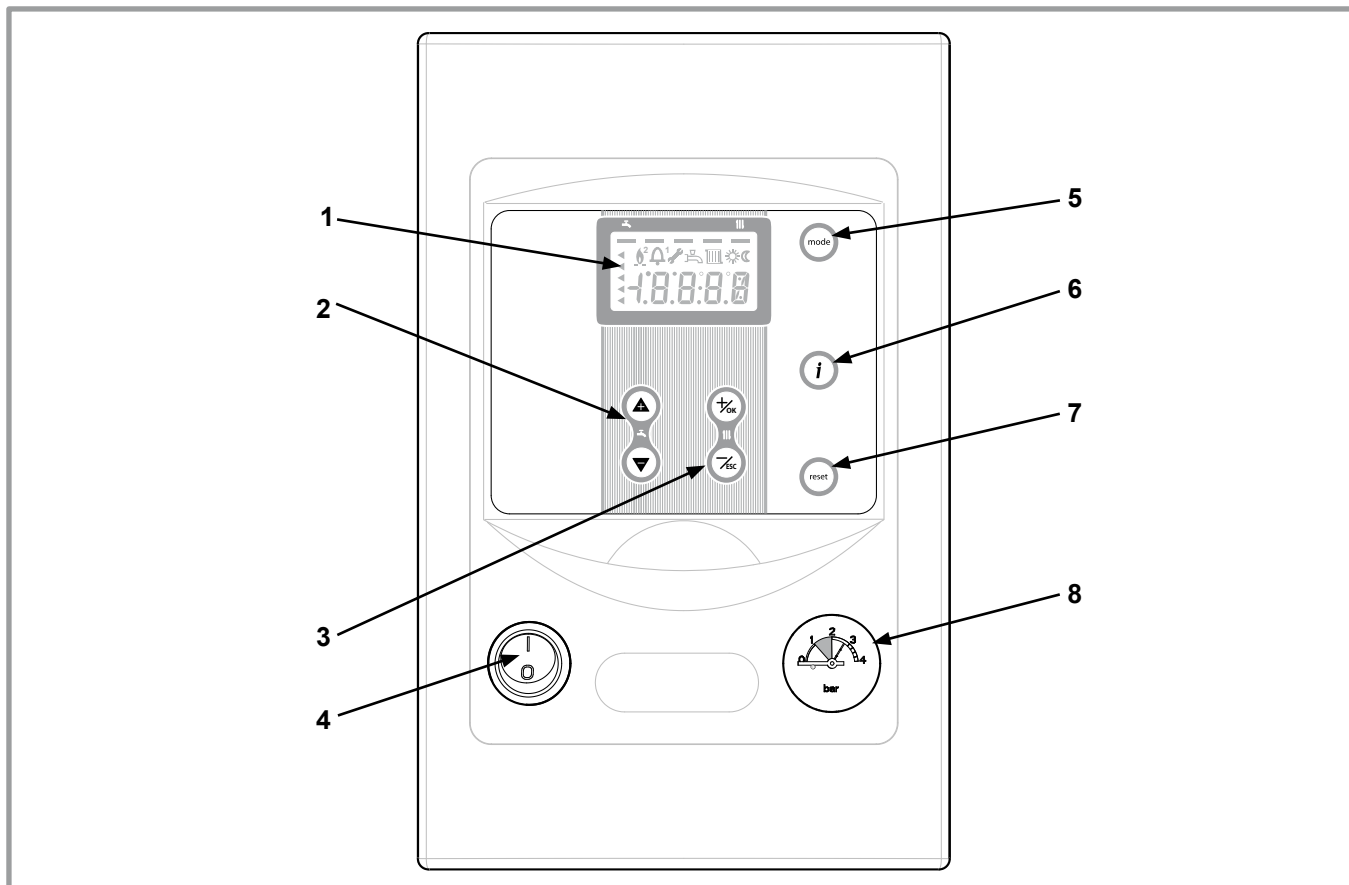

figure 32 - User interface
- Make the connections in accordance with the diagram(s) (figure 32).